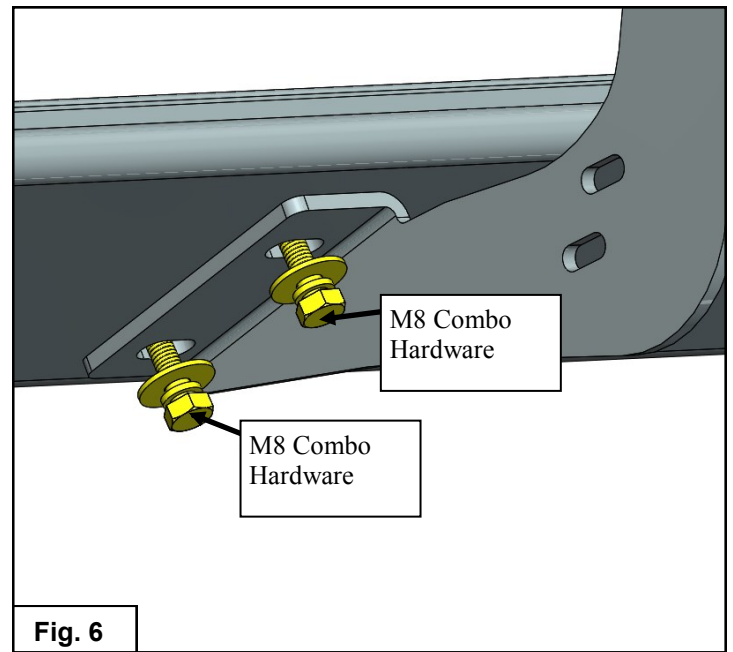

Fig. 6
6. Fasten step bars respectively to either side using the M8 hardware provided with the step bars. See **Figure 6**.